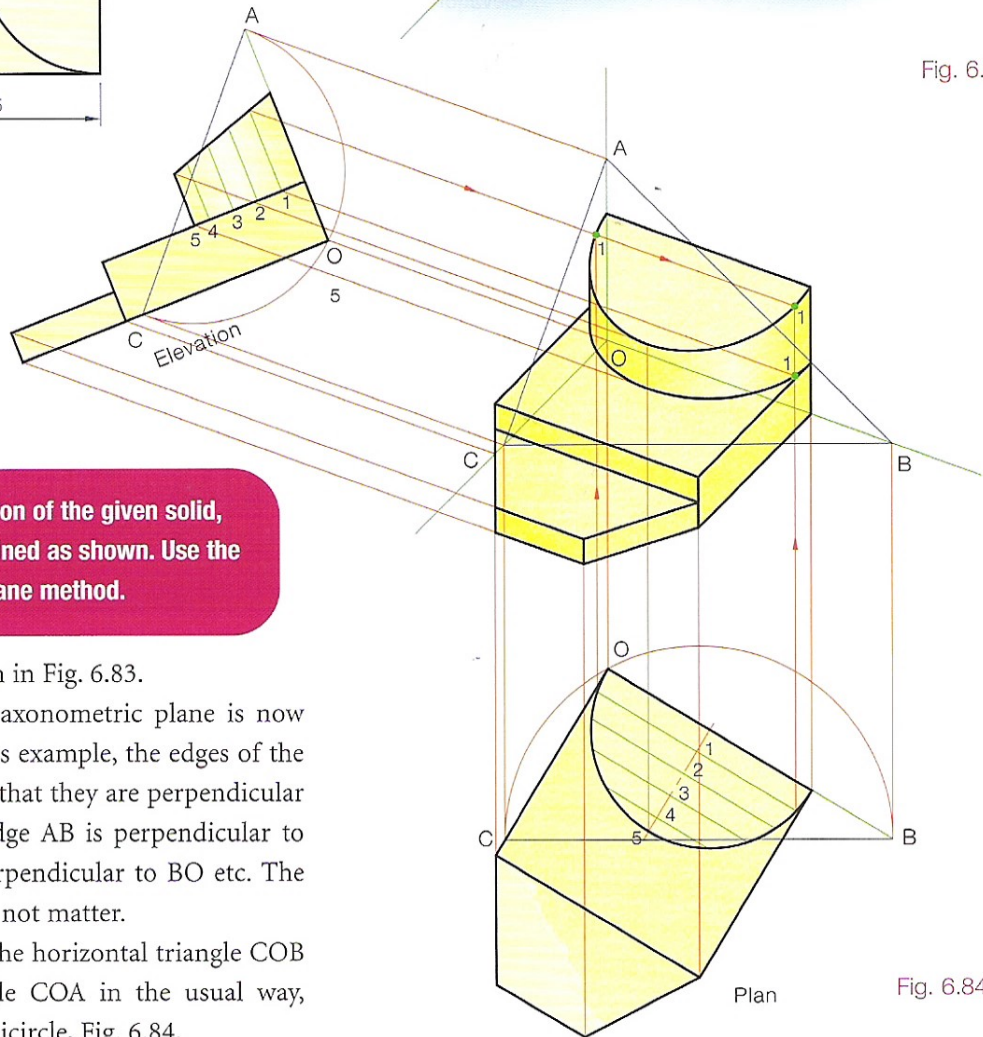

Fig. 6.84
- (2) The true shape of the axonometric plane is now drawn. Like the previous example, the edges of the plane are positioned so that they are perpendicular to the opposite axis. Edge AB is perpendicular to axis CO, edge AC is perpendicular to BO etc. The size of the triangle does not matter.
- (3) Find the true shape of the horizontal triangle COB and the vertical triangle COA in the usual way, using the angle in a semicircle, Fig. 6.84.
- (4) Construct the orthographic views in these triangles.
- (5) The trimetric is found by projection from these views parallel to the axes.
- (6) The cylindrical portion is found by using ordinates as shown.
- (7) The lengths are scaled automatically using this method.